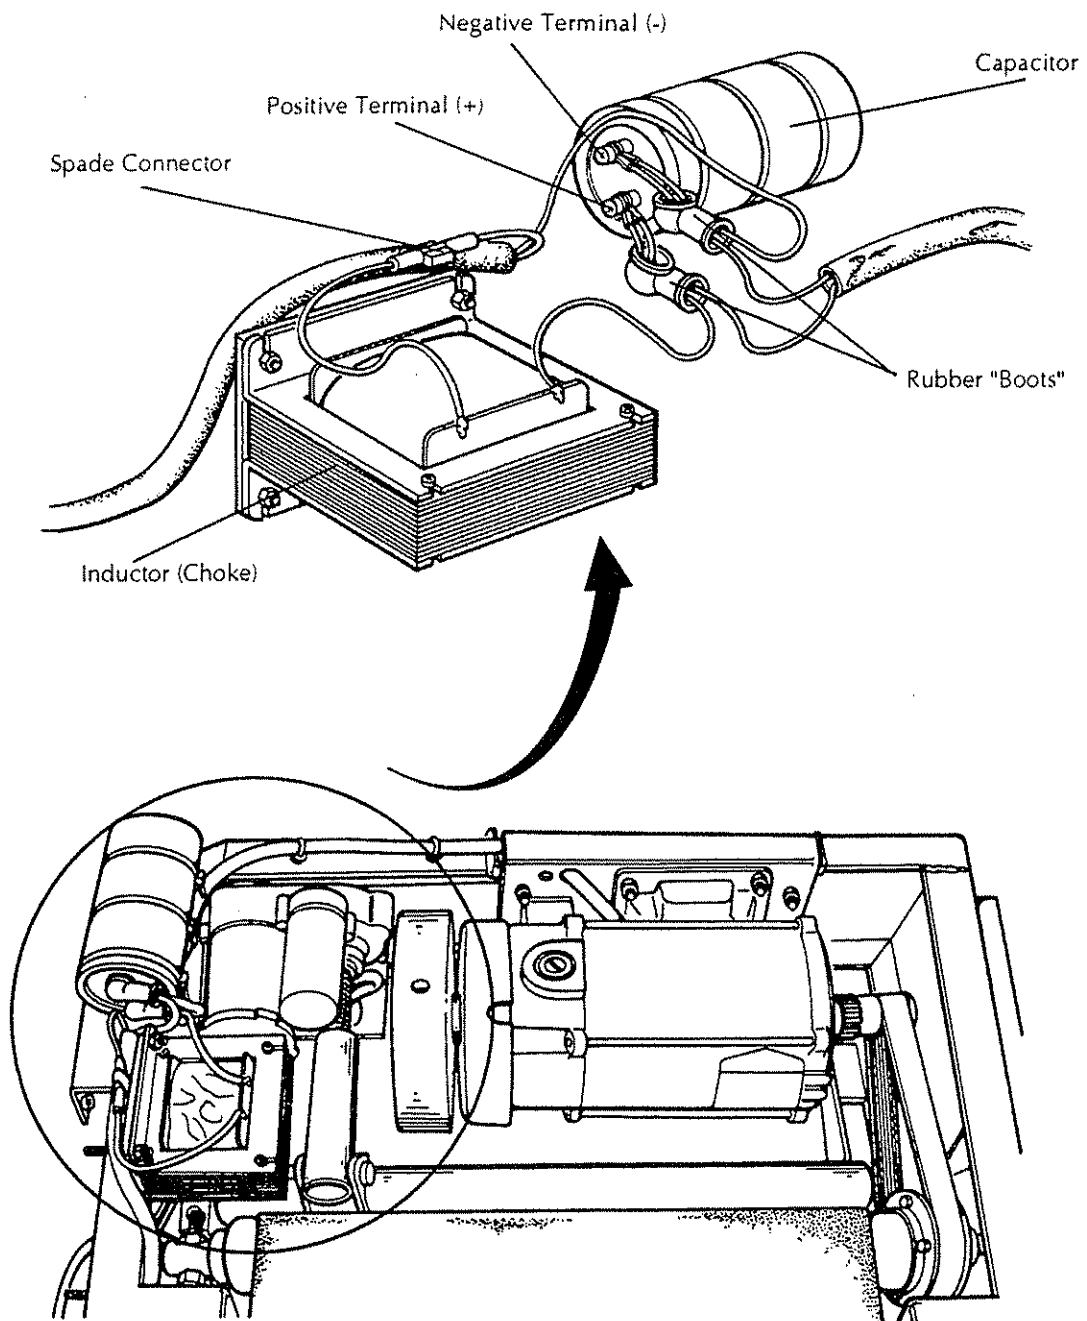

Figure 3-5: Discharging the Filter Capacitor
3. Discharge the filter capacitor. Refer to Figure 3-5 and complete the following: